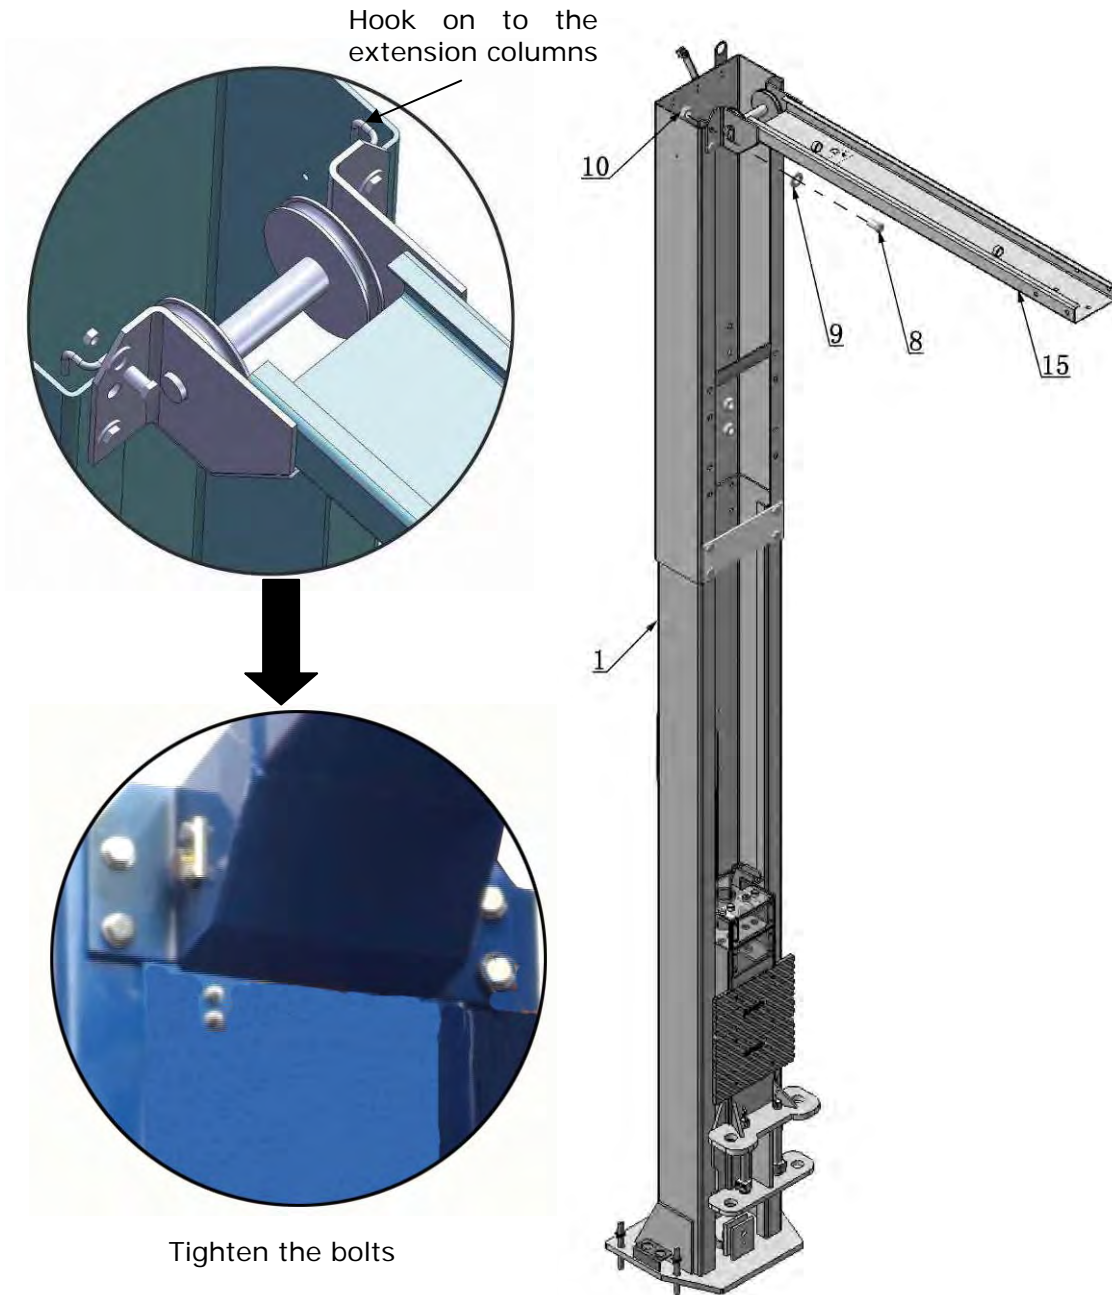

Fig. 21
1. With help of the hook on the top beam, put one side of the top beam on top of the extension column and connect the top beam to the extension column with bolts, tighten the bolts. Then assemble the connecting bracket (See Fig. 21).